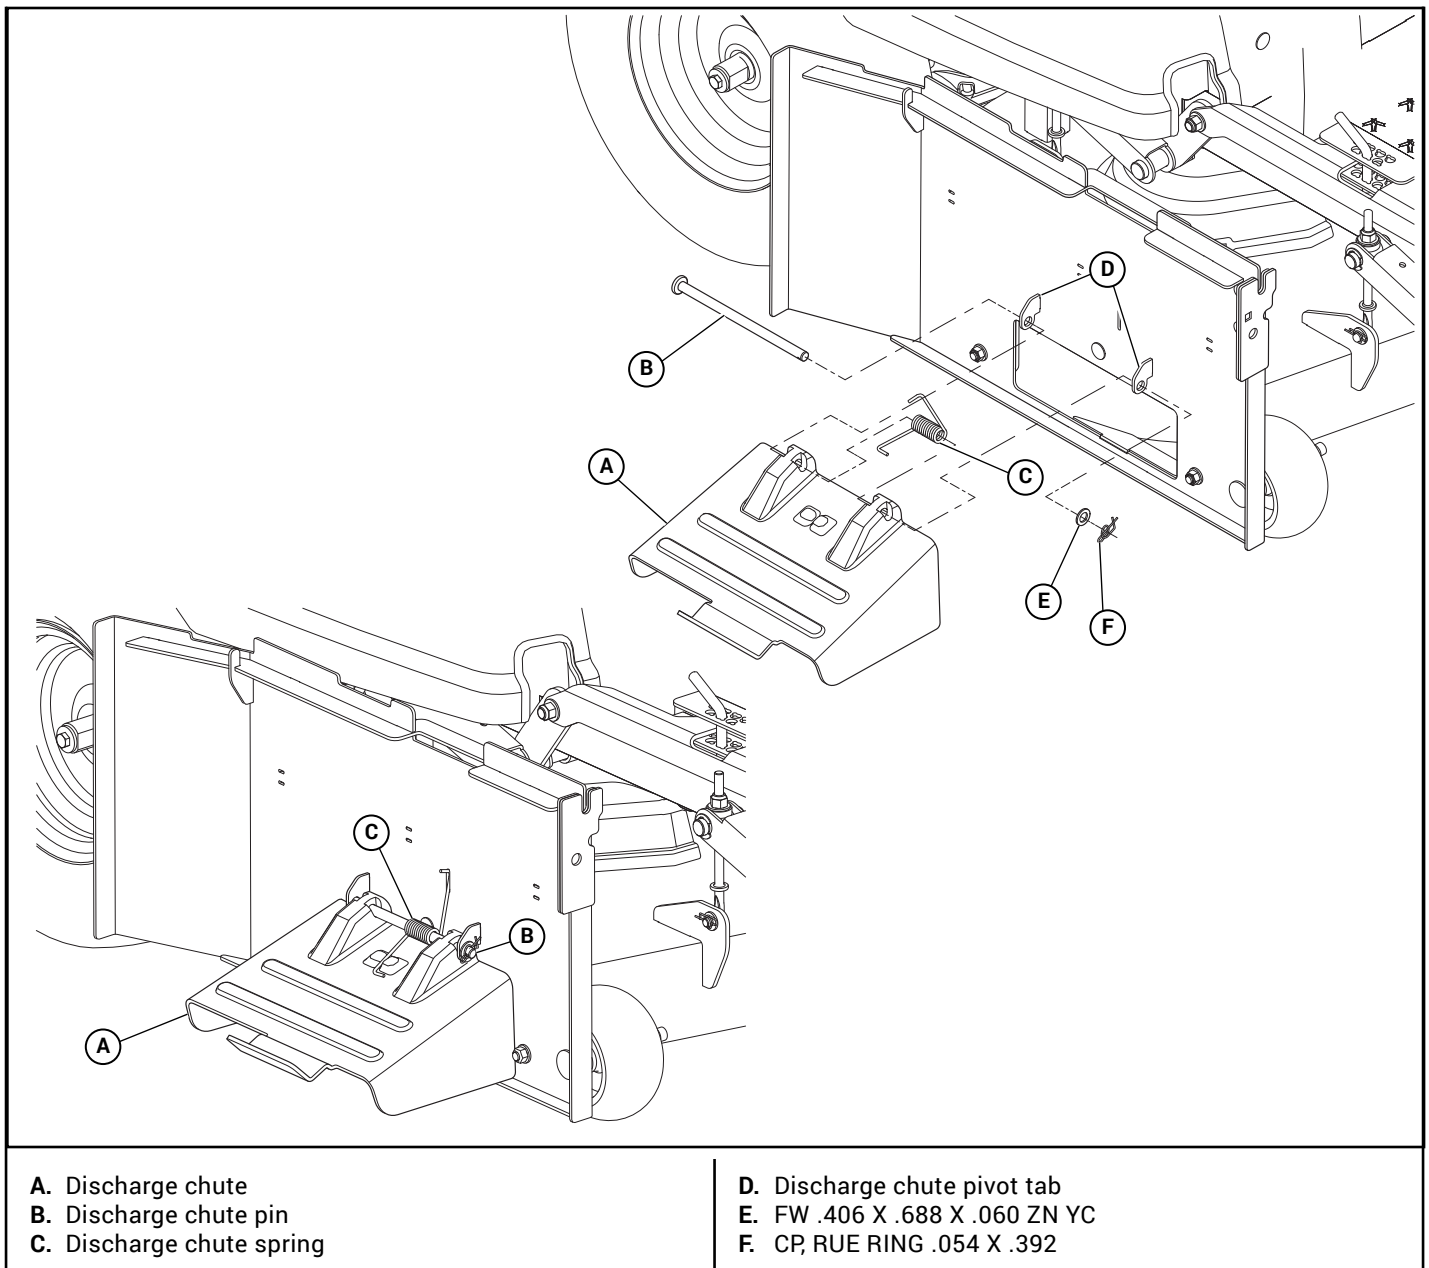

Figure 3-3
4. Install the new discharge chute as shown. Figure 3-3